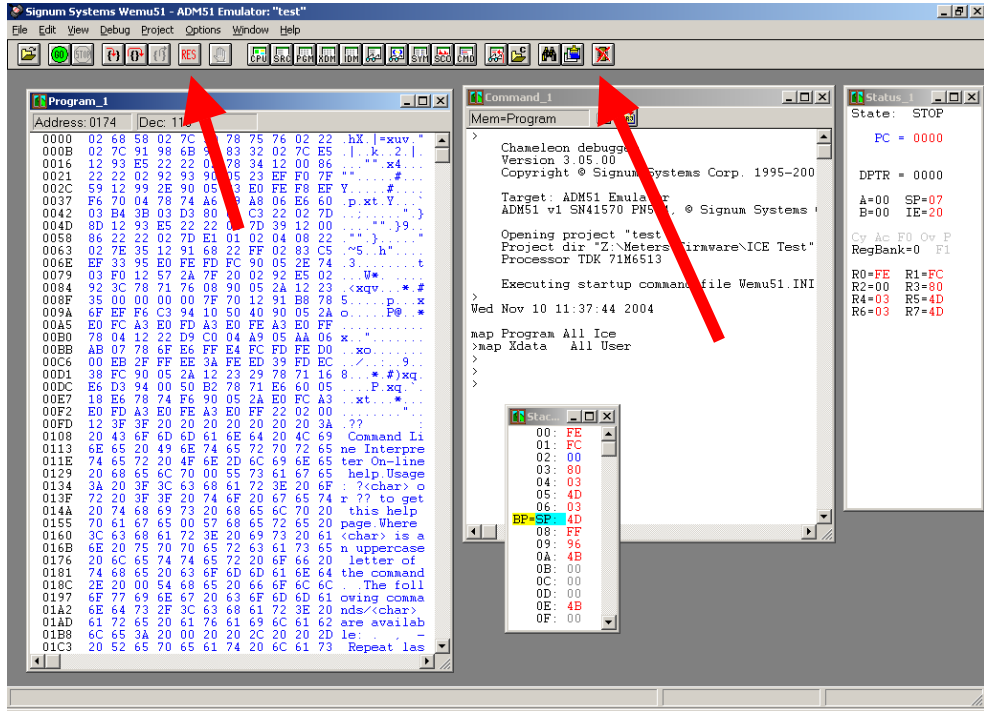
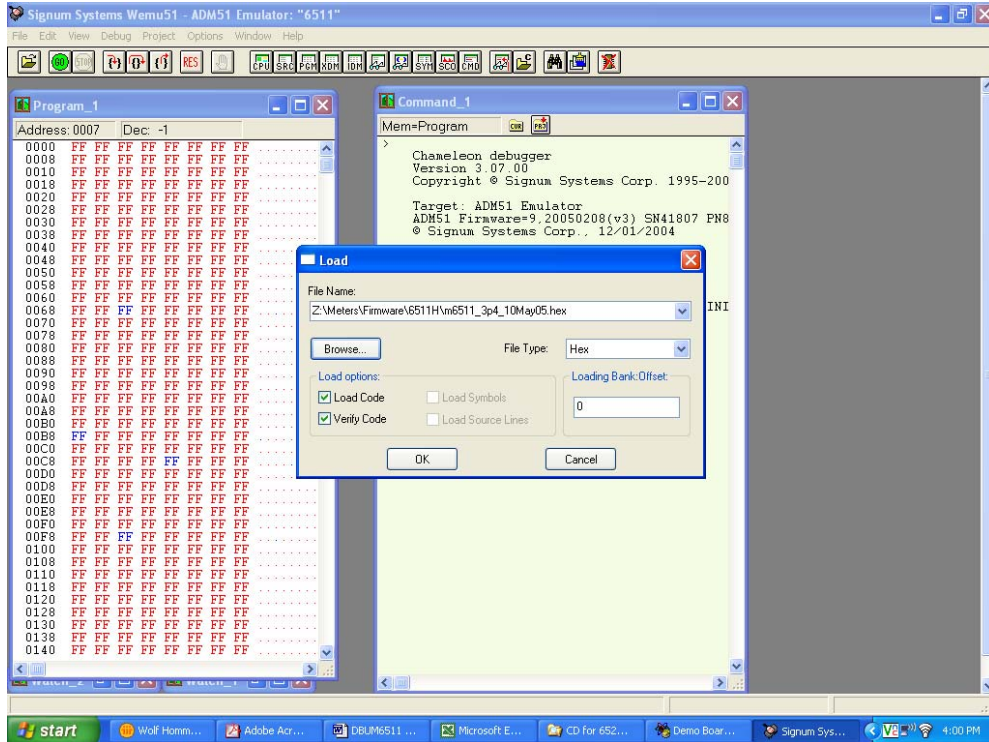

Figure 1-8: Emulator Window Showing Reset and Erase Buttons (see Arrows)
Figure 1-9: Emulator Window Showing Erased Flash Memory and File Load Menu
**In-Circuit Emulator:** If firmware exists in the 71M6513/6513H flash memory, this memory has to be erased before loading a new file into memory. Figure 1-8 and Figure 1-9 show the emulator software active. In order to erase the flash memory, the RESET button of the emulator software has to be clicked followed by the ERASE button (Figure 1-8).
Once the flash memory is erased, the new file can be loaded using the commands File followed by Load. The dialog box shown in Figure 1-9 will then appear making it possible to select the file to be loaded by clicking the Browse button. Once the file is selected, pressing the OK button will load the file into the flash memory of the 71M6513/6513H IC.